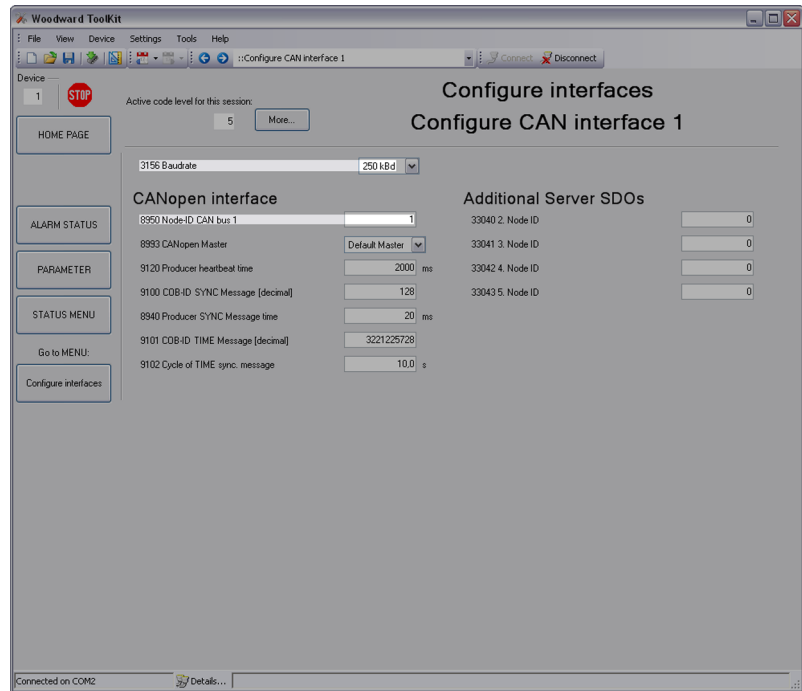

Fig. 35: ToolKit configuration CAN interface 1 (example)
1. Select "Parameter → Configure interfaces → Configure CAN interface 1" (Refer to Fig. 35 for details).